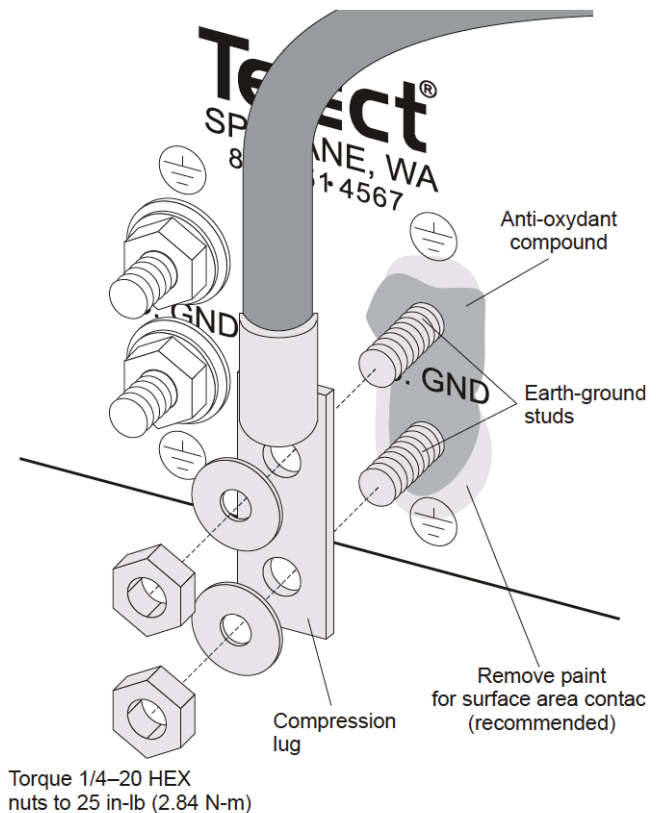

Figure 4 - Ground to Chassis
8. Connect using 1/4 - 20 hex nuts and flat washers provided, as shown in Figure 4.